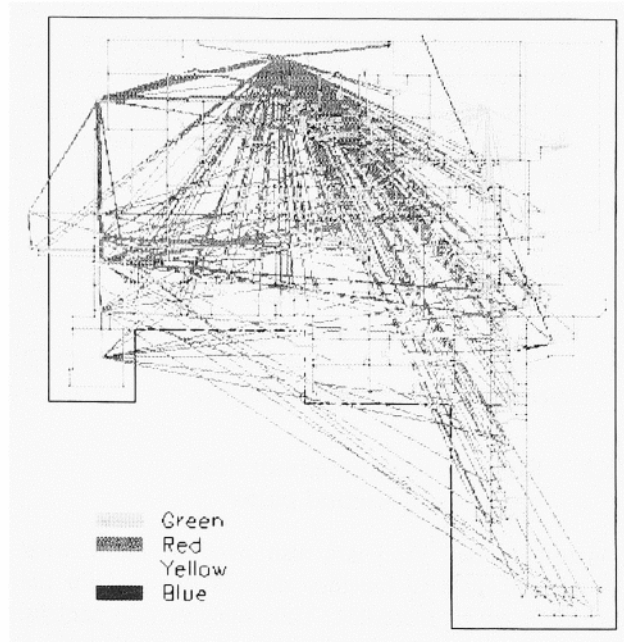

Figure 1: Euclidian Flow Diagram
With material flow diagrams generated in a Euclidian fashion (straight line from origin to destination) as in Figure 1, designers can easily visualize the origin and destination of materials, using the color of the lines to identify part groupings and the thickness of the lines to gauge relative cost or intensity of flow. Designers can query an individual line to identify exactly what part number, routing, and material handling method it represents.
In Figure 1, flow line colors identified material origin. FactoryFLOW allows the designer to color-code the material flows in any manner desired. Designers may assign colors to define materials, products or even material handling systems. Up to 256 colors may be selected and used to identify different material flow patterns or trends. Through the use of color, the designer can quickly identify how well materials and flows are clustered and/or concentrated within the facility. Here are brief descriptions of two common color coding schemes for automotive assembly plants:
- Flow lines color coded according to the received location/dock. These Euclidian diagrams are excellent for evaluating where materials received at one location end up (as in Figure 1). A good dock assignment will result in clusters of color in a fanned fashion around the docks of the plant.